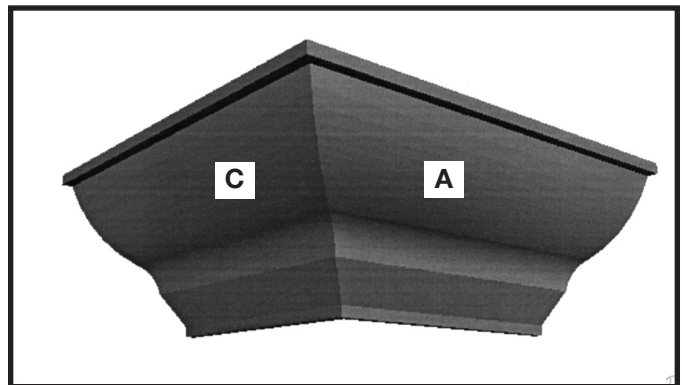

Fig. 45
6. Fig. 45 illustrates the two outside corner pieces.